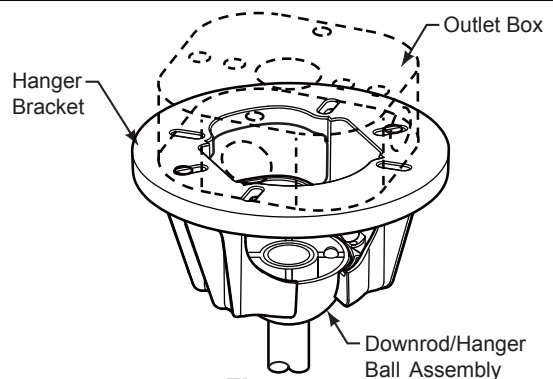

Figure 4
4. Slide downrod into the downrod support on top of the motor. Install the clevis pin by aligning the holes in the downrod support with holes in the downrod. Secure clevis pin with hairpin clip. Install and tighten the two set screws with nuts in the downrod support. Securely tighten the set screws with screwdriver then fully tighten the nuts by hex wrench. (Figure 4)
3. Carefully lift the fan and seat the downrod/hanger ball assembly on the hanger bracket that was just attached to the outlet box. (Figure 4) Be sure the groove in the ball is lined up with tab on the hanger bracket. (Figure 3)
3. Connect wires using connectors as shown in Figure 4. Connect the 2 pin connectors from the motor assembly to the 2 pin connectors from receiver, connect the 3 pin connectors from the motor assembly to the 3 pin connectors from receiver.
- 4. Assemble the light kit wire cover assembly to the switch housing assembly using the two key slots in the light kit wire cover assembly. Replace the previously removed screw and securely tighten all three screws. (Figure 4)
- 4. If you need to replace the batteries. Remove the battery cover from remote control by screwdriver and retain the screw for later. (Figure 4)